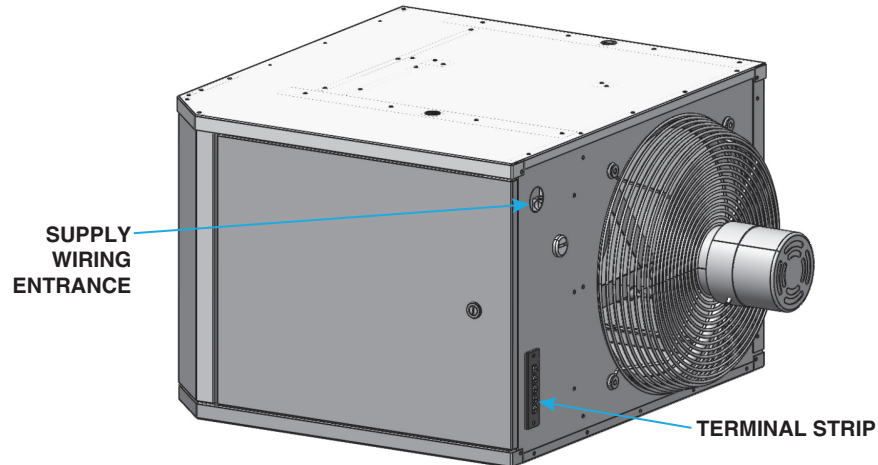

Figure 7. Supply Wiring Entrance and Control Connection Terminal Strip
- The supply wiring enters as shown in Figure 7 and connects to the terminal block on the control panel shown in Figure 6).
- The terminal strip for 24V control connections is located on the outside of the cabinet at the back of the unit, as shown in Figure 7. The strip has five terminals: C, R, G, W1, and W2.